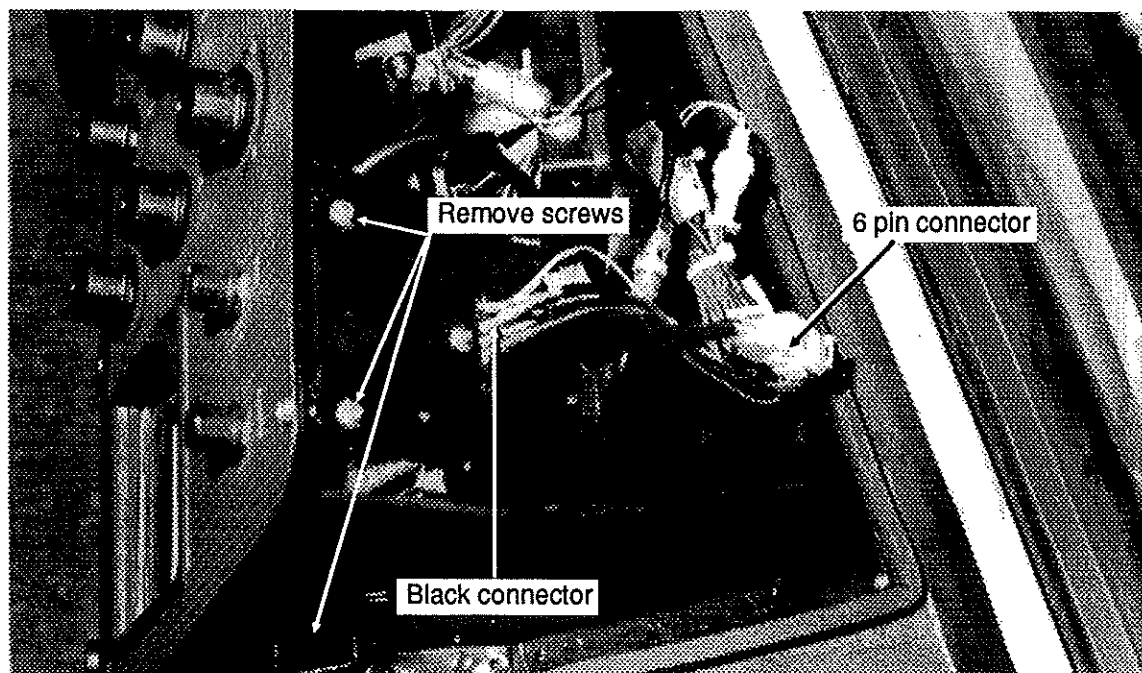

Fig. 6
3. Disconnect the black connector from the top of monitor (see fig. 6).
5. Remove both screws on top of monitor bracket, then remove both screws, one on each side of monitor (see fig. 6).